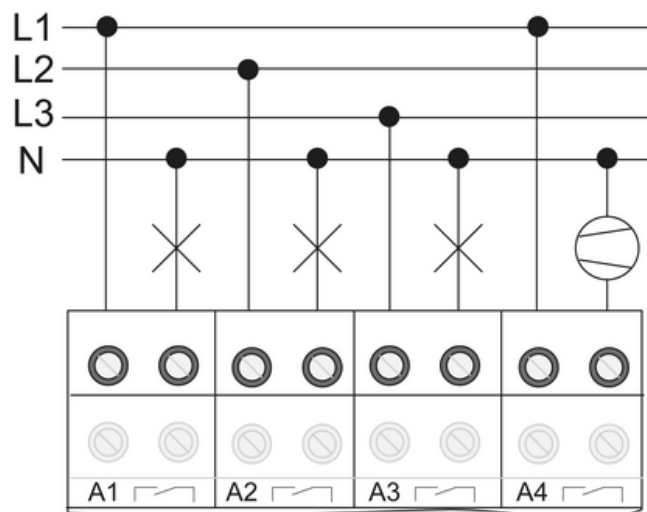

Figure 4: Connection example of switched loads
- Connected switched loads (Figure 4).